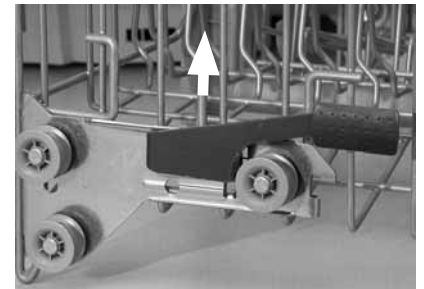

Figure 5
2. Press the Automatic Height-Adjustable Top Rack handles inward as shown in Figure 5 and let the rack drop.